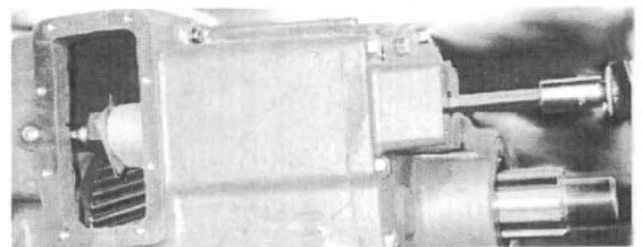

Fig. 100
38. Insert a 7/16" Allen wrench into the adjustment hole on the opposite end of the high-low shift shaft. Turn the shaft until the sliding clutch gear bottoms out or touches the bearing cone inside the lower direct drive gear. Back off one (1) complete turn to set the adjustment. See Fig. 100.